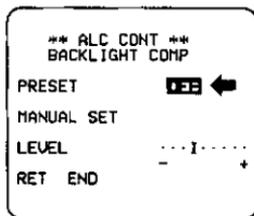

Fig. 53
- Move the cursor to the "PRESET" mode position and select the "OFF" mode by using the Left Switch (<) (9) and Right Switch (>) (8).
- The field setup menu is displayed on the monitor screen as shown in Fig. 53.
- Press the Set Switch (11) when this masking is to be canceled.
- After masking is completed, press the Set Switch(11) for more than 2 seconds and the 25 Mask Areas on the monitor screen disappears and the field setup menu shown in Fig. 53 is then displayed.
- When the video output level (picture contrast) is to be changed, move the cursor to the "LEVEL" mode position and press the Left Switch (<) (9) and Right Switch (>) (8) to adjust the iris of the ALC lens. The cursor "I" moves right (open) or left (close) corresponding to the video output level (iris opening).
- Move the cursor to "RET" position by using the Up Switch (Λ) (10) or Down Switch (V) (7) and press the Set Switch (11) to return to the Set Up menu.